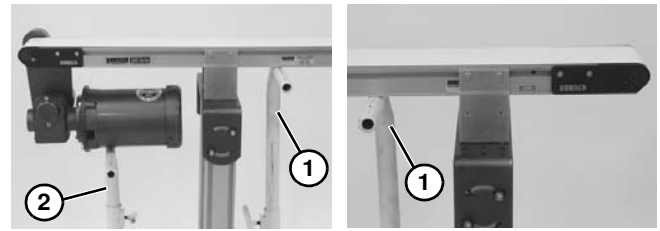

Figure 53
1. Ensure temporary support stands (Figure 53, item 1) are placed at both ends of the conveyor. Place an additional support stand under the drive motor (Figure 53, item 2), if equipped. See WARNING.